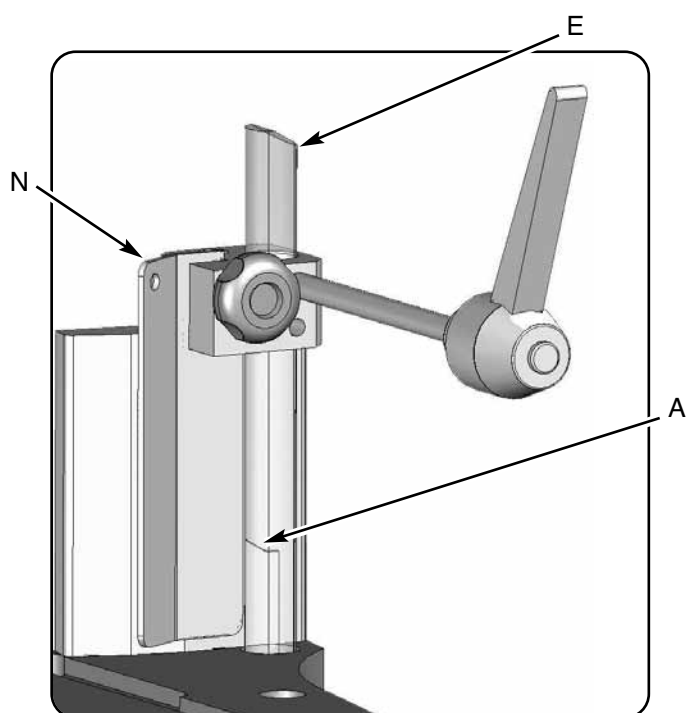

fig. 3.2.3
-verify that the vertical edge clearance bar E fig. 3.2.3, is set as shown in the figure.
The worked part A fig. 3.2.3 it is necessary for the vertical and side containing of the thin edge.
-mount the plate N fig. 3.2.3. This plate is one position only and it is necessary for the side containing.
Check the position of the bar E fig. 3.2.3 by feeding the thin edge until it reaches the first pressure roller, the edge must run freely.
Edge fence E fig. 3.2.3 is not adjust properly